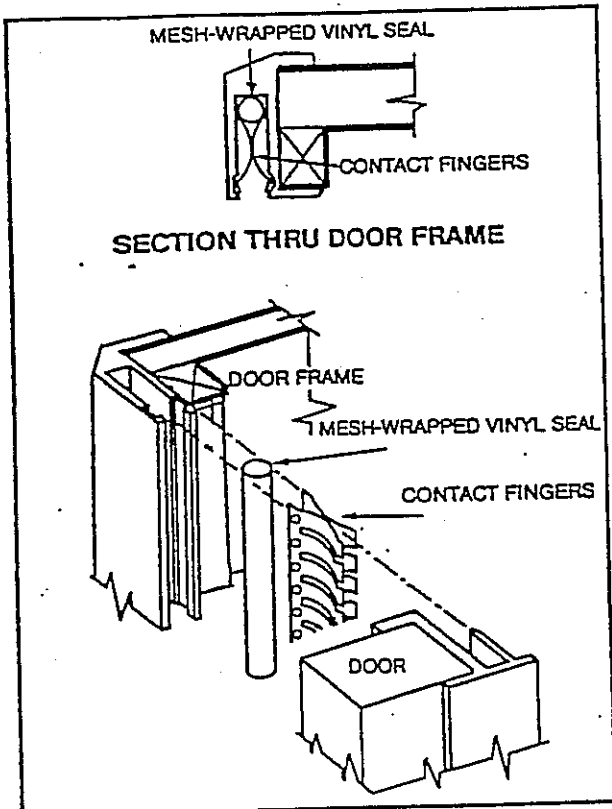

FIGURE 3. EXPLODED VIEW OF RECESSED CONTACT MECHANISM (RCM)
2. During inspection of fingerstock count the number of patches which have been replaced. If more than five patches exist, remove all fingerstock and vinyl seal shield from channel and reinstall new fingerstock and new seal as shown in Fig. 3.
- 8) Again starting in the upper lefthand corner, insert second row of fingerstock by hand, down the entire side of the frame. Fingers should be gently pressed into position one at a time, until they are locked in place (see Fig. 3).